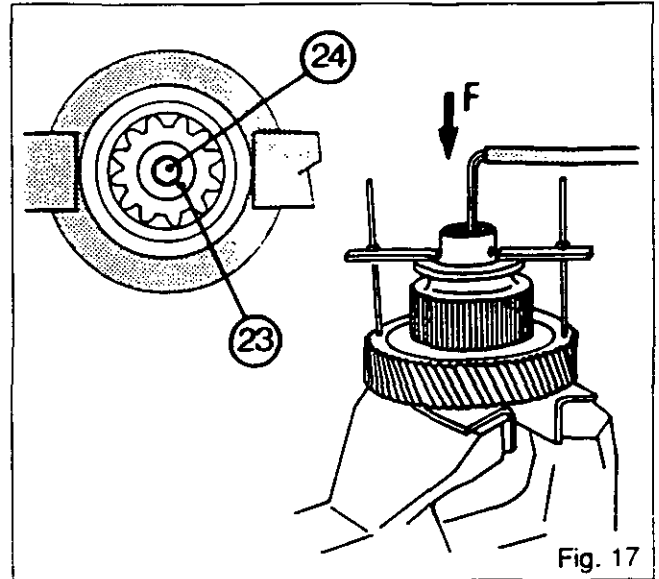

Fig. 17
58. Hold the spring (18) with the aid of a locally made tool (Fig. 17). For tool see page 12.
59. Remove the screws (24) and take off the washer (23) (Fig. 17). Gradually decompress the spring with the tool.
60. Remove the hub (21), the spring seat (19), the spring (18), the retainer (13) and the Belleville washer (12).
61. Remove the securing ring (20).
62. Extract the ball bearing (22).
63. Take out the piston (10).
64. Remove the O-rings (11), (25) and (26).